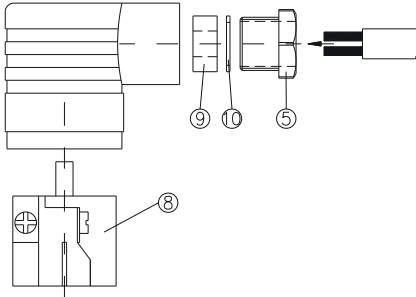

Fig. 8
- ↪ Insert the supply cable through the screwed cable gland ⑤, the pressure ring ⑩ and the rubber insert ⑨ into the cable socket ② (⇒ Fig. 8).